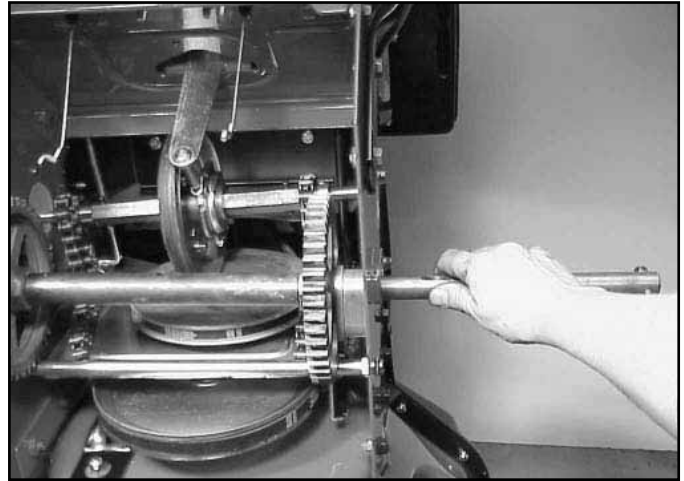

Fig 128
12. Slide axle shaft out through bearing retainer one at a time, holding onto the 44 tooth gear (Fig. 128).